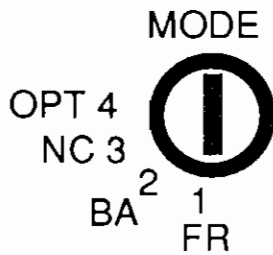

Figure 18
Position 1: Full-range (FR) mode. (See Figure 18.)